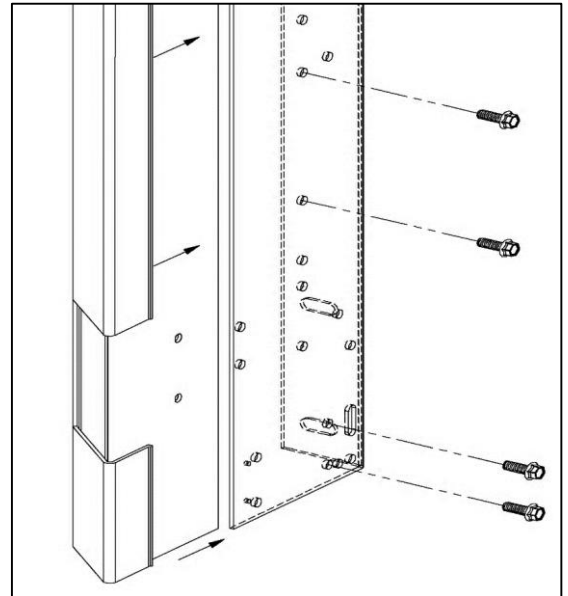

Figure 7. Attaching plastic door track.
- Insert $\frac{1}{4}$ " -20 x $\frac{3}{4}$ " flange bolt through the holes so that the head is outside the track (touching the Mounting Rail) and the $\frac{1}{4}$ "-20 flange nuts are inside the track (touching the plastic track). Exclude previously drilled holes for Junction Plate **(SEE FIGURE 7)**.
6. Re-attach the Junction Plates on both sides **(SEE FIGURE 7)**.